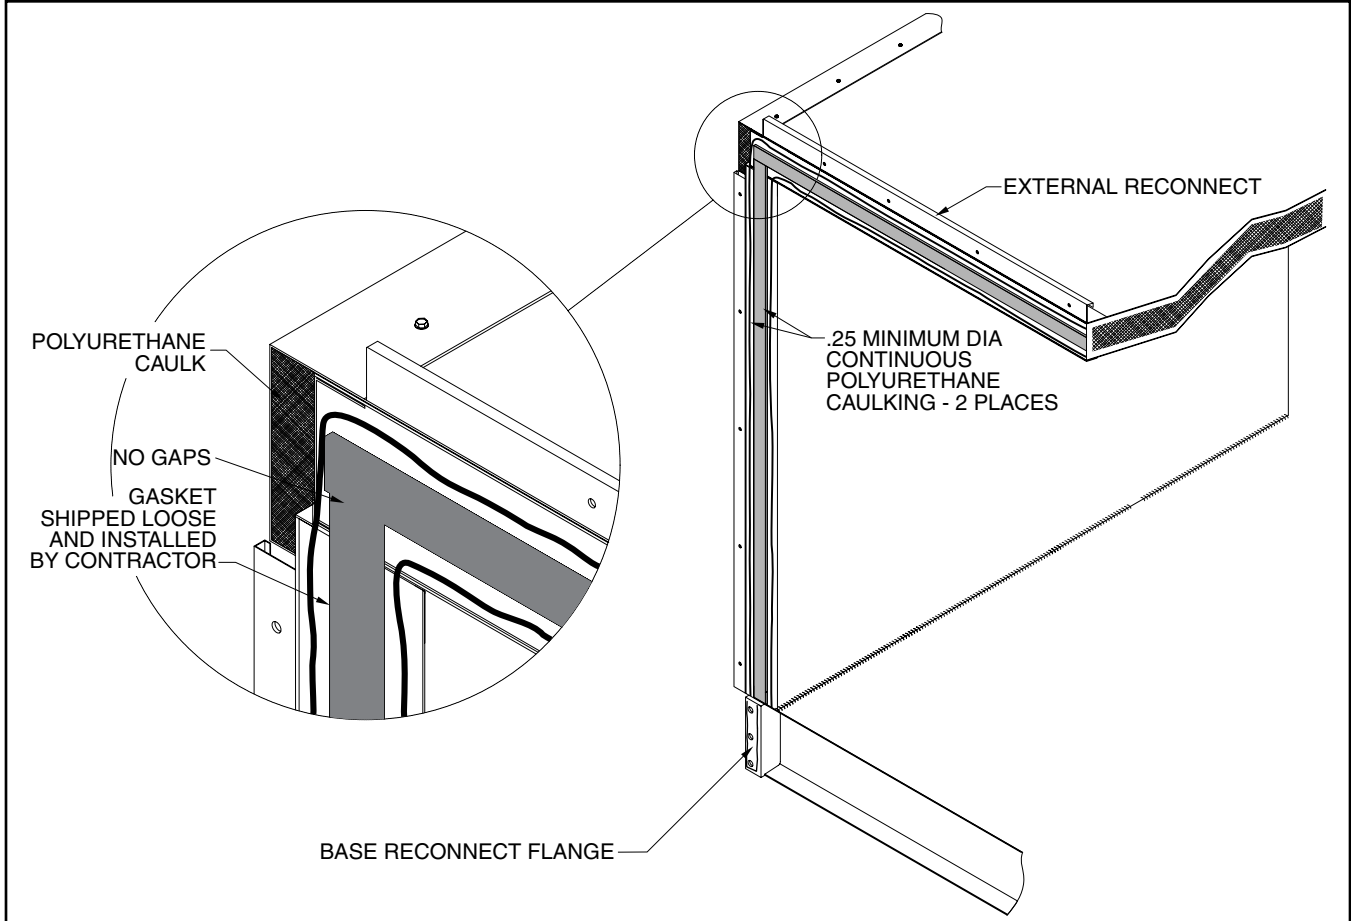

Figure 17 – Multi-Section Gasket Installation On AcuAir Food Grade and Sanitary Series Units
2. Install the foam gasket on one of the mating surfaces of one of the sections to be reconnected as indicated in Figure 17. Gasket material and caulk are shipped loose in boxes located in the blower section of the air unit.
3. Apply a bead of polyurethane caulk to either side of the foam gasket and across the lower reconnect flange as indicated in Figure 17.